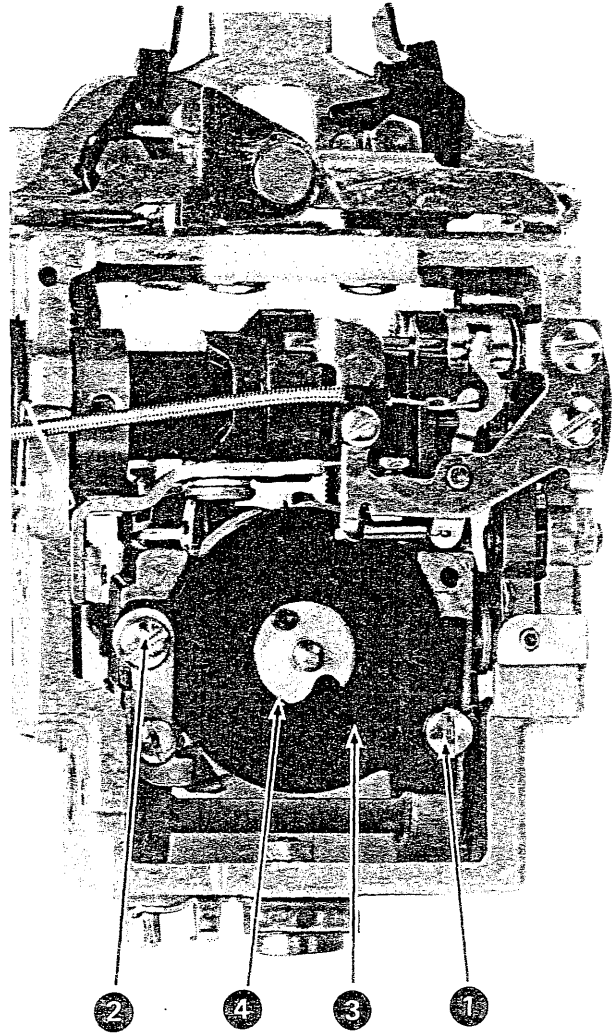

Figure 4-15. Rotate-Spring Replacement (Step 8)
- c. On machines without striker or bearing, remove the right-hand screw (No. 1, Figure 4-15) and back out the upper left screw 1/4" (No. 2, Figure 4-15). It is not necessary to loosen the lower left screw.
8. Remove the striker (if present) and rotate-spring retaining plate (No. 3, Figure 4-15). The rotate spring can now be removed.
- d. The rotate-spring retaining plate (No. 3, Figure 4-15) must not bind the rotate-pulley hub (No. 4, Figure 4-15)